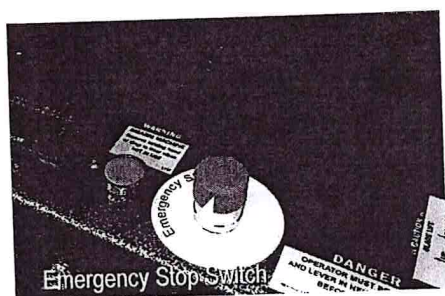

FIG. 14
Emergency Stop Switch (Figure 14)
4. Twist emergency stop (Figure 14) up.